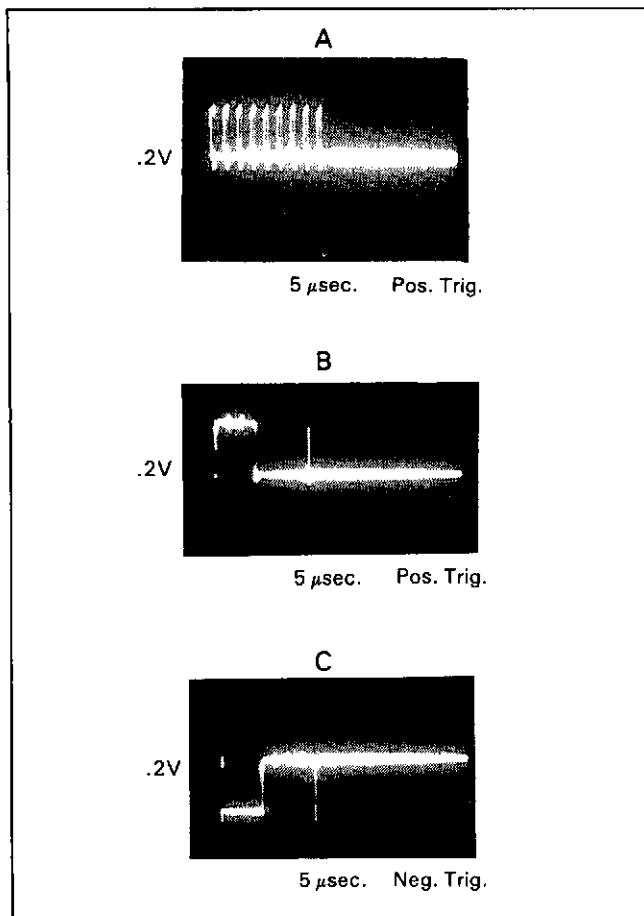

Figure 8-A-9. Input to U19.
- Next turn the 3456A On and check for signature "1025" (high) at pin 14 of A4U19 and signature "CU45" at pin 5 of U18. If the signatures are good, continue troubleshooting the Isolation Logic. If the signatures are bad, try U19 and U18, respectively. If the signatures are still bad, go to Flowchart B, Figure 8-A-2, for further troubleshooting.
a. If all the Low Pulses are missing, check the waveform shown in Figure 8-A-9B at pin 2 of U19. If the waveform is good, replace U19. If not, replace U15 or U19.
b. If all the High Pulses are missing, check the waveform shown in Figure 8-A-9C at pin 10 of U19. If the waveform is good, replace U19. If bad, replace U15 or U19.